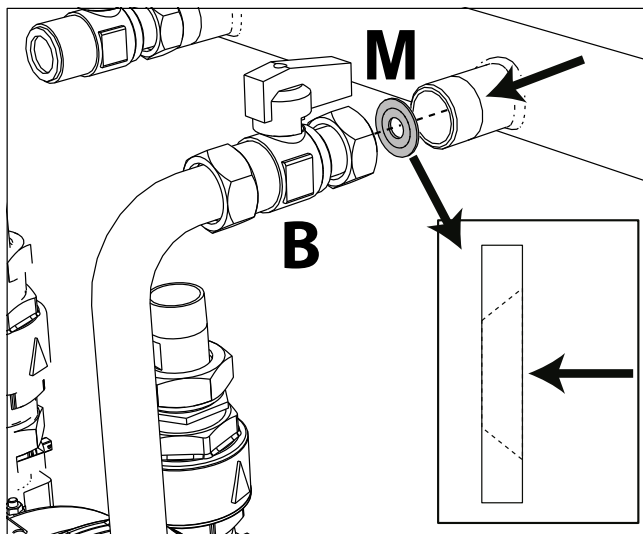
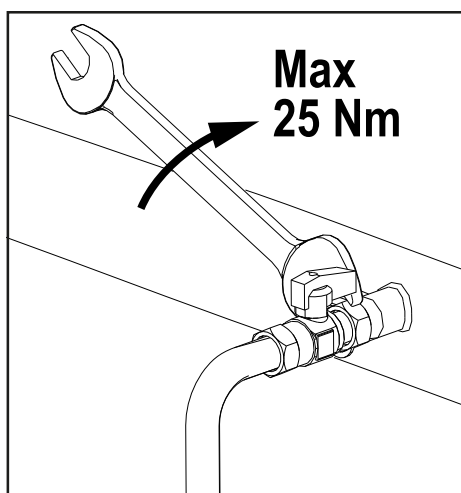

fig. 84- Nozzle for use with LPG
fig. 85
8. In case of **conversion to LPG**, the existing gasket between cock “B” and gas manifold must be replaced with nozzle “M” (fig. 84). Re-fit cock “B” on the gas manifold, taking care to keep tightening torque below **25 Nm** to avoid damaging the nozzle (fig. 85).
ATTENTION: The nozzle “M” (see fig. 84) **must not** be inserted with the unit running on **Natural Gas**.